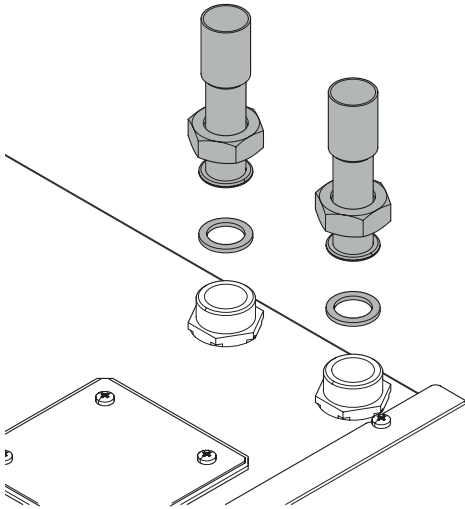

Fig. 6.3
- The boiler is supplied with 22 mm copper tails for both upwards (Fig. 6.3) flow and return pipe routing suitable for compression or soldering connections.